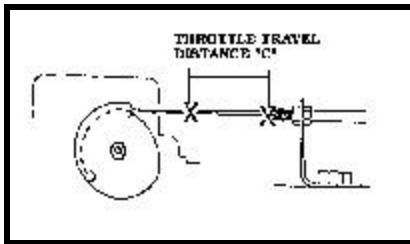

Figure 6
C. Measure the Distance "C" between the two marks. **Figure 6** If the distance is greater than **41mm (1-5/8")**, go to **Page 11**; If it is less, go to **Step D**.